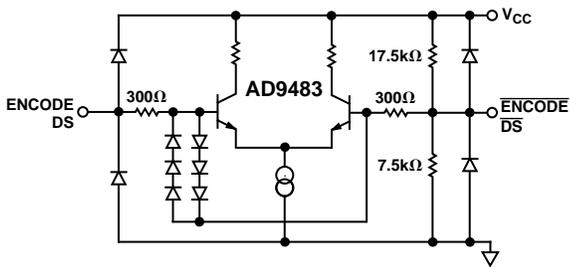

Figure 5. Equivalent Encode and Data Select Input Circuit
ENCODE and Data Select (DS) can be driven differentially or single-ended. For single-ended operation, the complement inputs ($\overline{\text{ENCODE}}$, $\overline{\text{DS}}$) are internally biased to V_{DD}/3 (~1.5 V) by a high impedance on-chip resistor divider (Figure 5), but they may be externally driven to establish an alternate threshold if desired. A 0.1 μF decoupling capacitor to ground is sufficient to maintain a threshold appropriate for TTL or CMOS logic.
Note the 6-diode clock input protection circuitry in Figure 5. This limits the differential input voltage to ± 2.1 V. When the diodes turn on, current is limited by the 300 Ω series resistor. Exceeding 2.1 V across the differential inputs will have no impact on the performance of the converter, but be aware of the clock signal distortion that may be produced by the nonlinear impedance at the converter.